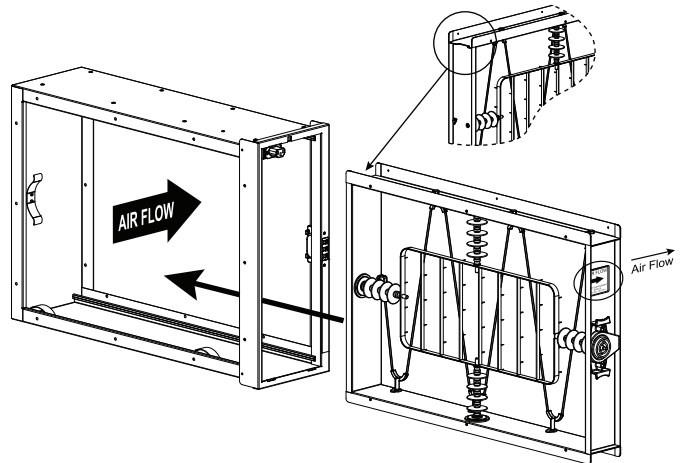

Fig. 15 – Installing FEM
1. Install the Filter Enhancement Module (FEM) into the cabinet, insuring that FEM is held firmly in place by the retention springs and that the high voltage connector/handle is facing outward (Fig. 15).